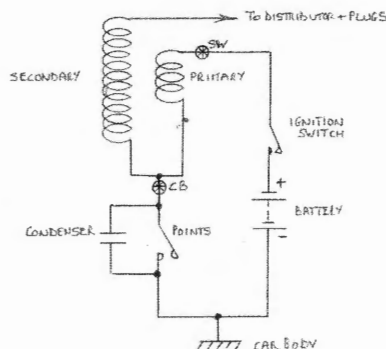

Figure 3
Figure 3 shows the circuit diagram of an ignition system for a negative earth car. The “coil” is in fact two coils wound on a laminated iron core (i.e. a transformer), the primary being the low tension (LT) one and the secondary being the high tension (HT) one. It can be seen that the two LT connections are not simply the two isolated ends of the primary coil, but that one end of the LT coil is connected to one end of the HT coil. The turns ratio varies from car to car but, typically the primary is about 400 turns and the secondary about 20,000 giving a turns ratio of 50:1. The primary wire is comparatively thick and the secondary wire is very thin to allow for 50 times more current in the primary than the secondary (if the voltage goes up by 50, the current goes down by the same amount).